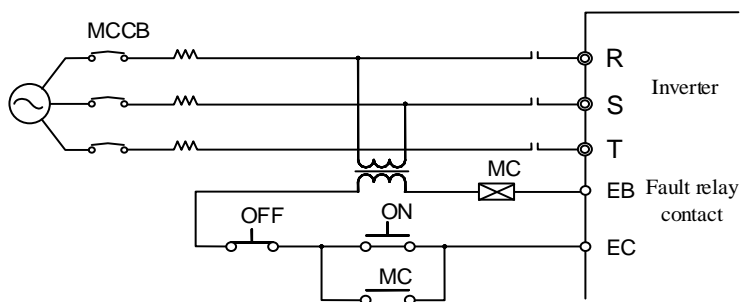

Fig.3-4 Connection of Input Circuit Breaker
- When the MCCB is used with multiple inverters or other devices, connect the protection output relay contact of the inverter in series to the power contactor coil, as shown in Fig.3-4, to disconnect the power supply according to the protection signal.
Connect the electromagnetic contactor that matches the power of the inverter, as shown in Fig. 3-4.